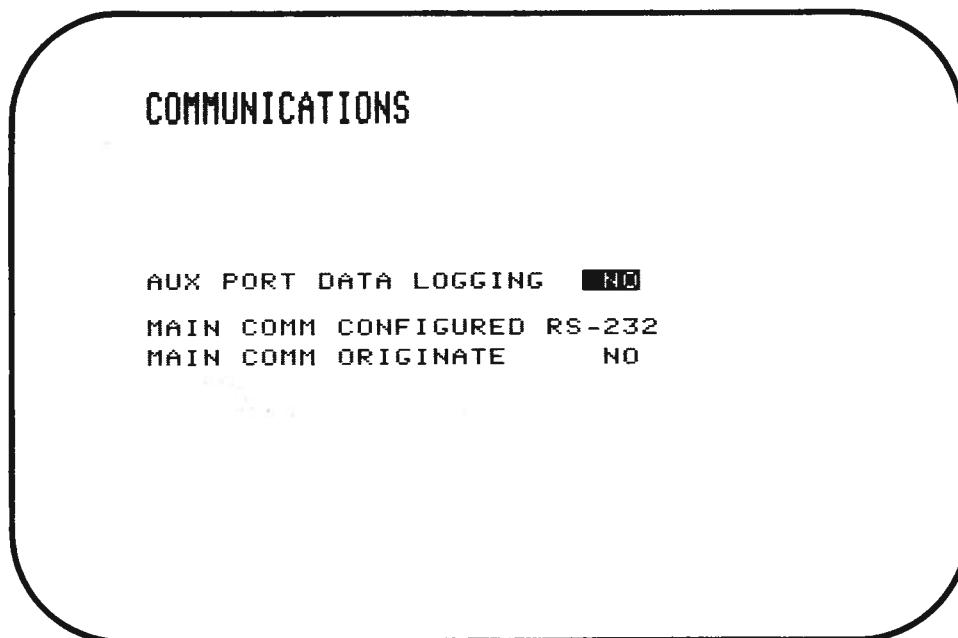

Figure 2.26 Communications Display
2.3.7 COMMUNICATIONS DISPLAY (Figure 2.26)